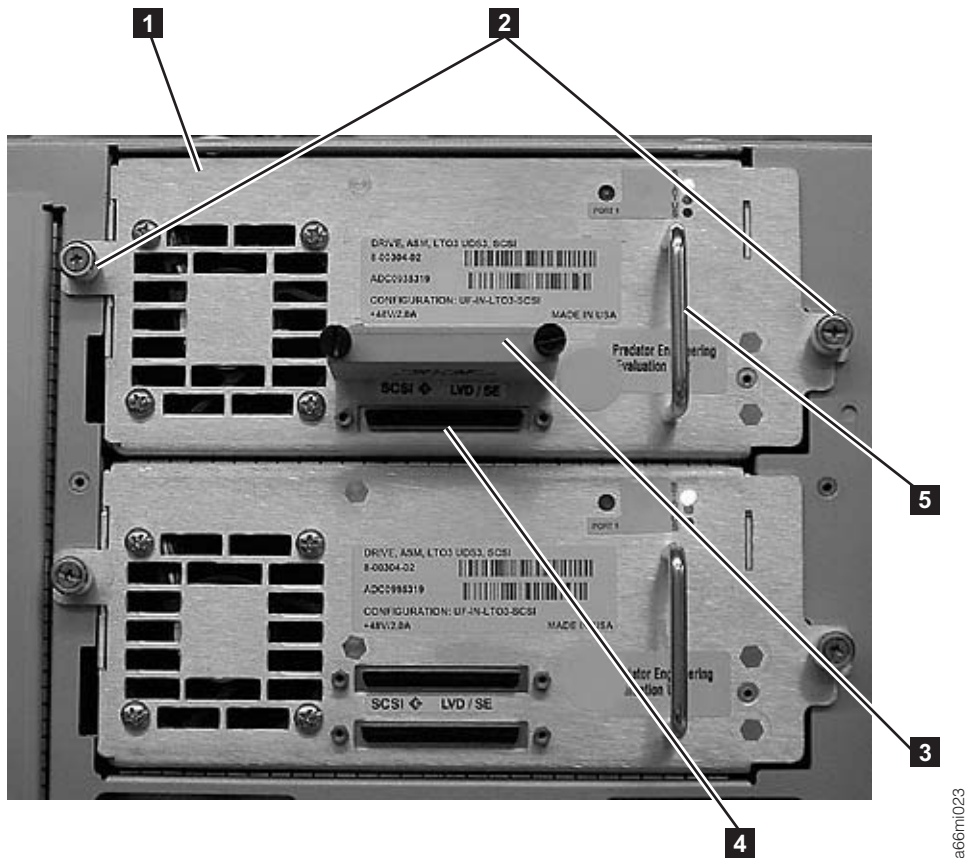
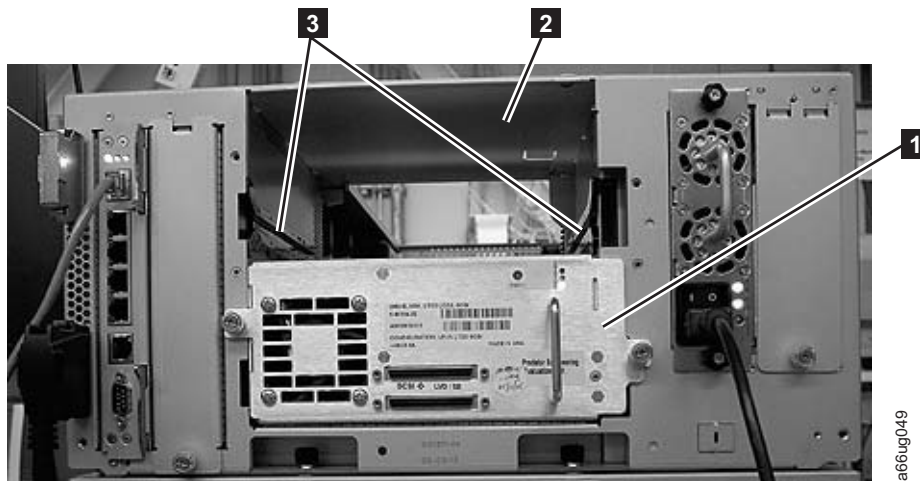

Figure 12-24. Drive sled (detail)
Figure 12-26. Drive sled slot
3. Loosen the two thumb screws (2 in Figure 12-24) that hold the drive in place by turning them counterclockwise.
4. Slide the drive out of the library module. Grasp the handle (5 in Figure 12-24) and slowly pull the drive toward you, while supporting the drive sled from underneath.
1. Align the drive sled with the guide rails and guide slots along the tracks (**3** in Figure 12-26) in the open drive sled slot (**2** in Figure 12-26). Grasp the handle (**5** in Figure 12-24 on page 12-25) and slowly slide the drive sled into the library, while supporting the drive sled from underneath.
2. Tighten the two thumb screws (**2** in Figure 12-24 on page 12-25) that hold the drive sled in place by turning them clockwise.
- a. For a SCSI drive sled, plug the cable and terminator into the drive sled. Tighten the thumb screws that hold the SCSI cable (**4** in Figure 12-24 on page 12-25 shows the SCSI receptacle) and terminator (**3** in Figure 12-24 on page 12-25) in place by turning them clockwise.